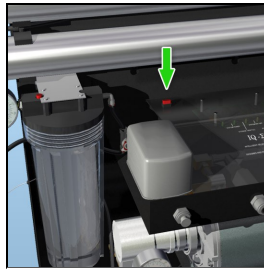

Figure 15. Press reset button on main panel
7. Press the reset button on the IQ-EMP panel. See figure 15.